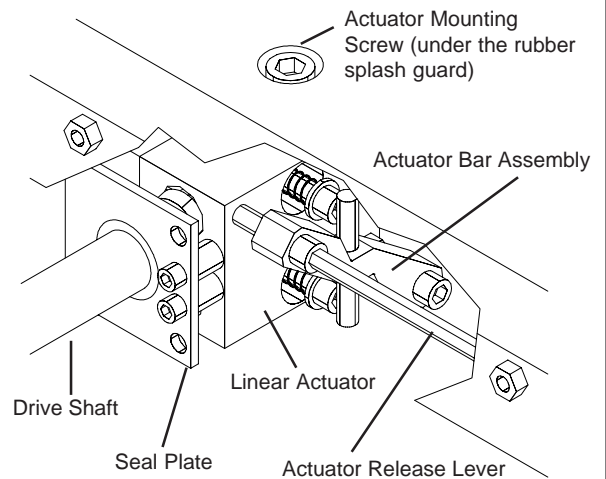

FIG. 22
- A. Remove the two feed screw guide mounting screws and remove the grinding head assembly from the carriage. Set the grinding head on a bench taking care as to not damage the power cord. Remove the actuator mounting screw, to disconnect the actuator from the carriage (this is located on the top side of the carriage base See Fig. 22).